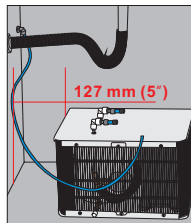
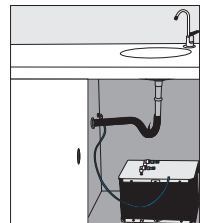

Figure 3
Figure 4
2. Place the cooler in a location in the cabinet under the sink with a minimum airspace of 127mm (5") around the unit to ensure ventilation (Figure 3) (see Figure 36). To provide the necessary air flow for the water cooler, two openings of at least 129 square cm (20 square inches) should be provided in the kitchen cabinet. The openings should be located as close to the cooler as possible. One should be made in the bottom of the cabinet and the other near the top. A cabinet vent should be used to cover the opening. Larger openings will always benefit the water cooler especially in higher ambient temperature conditions (Figure 4).